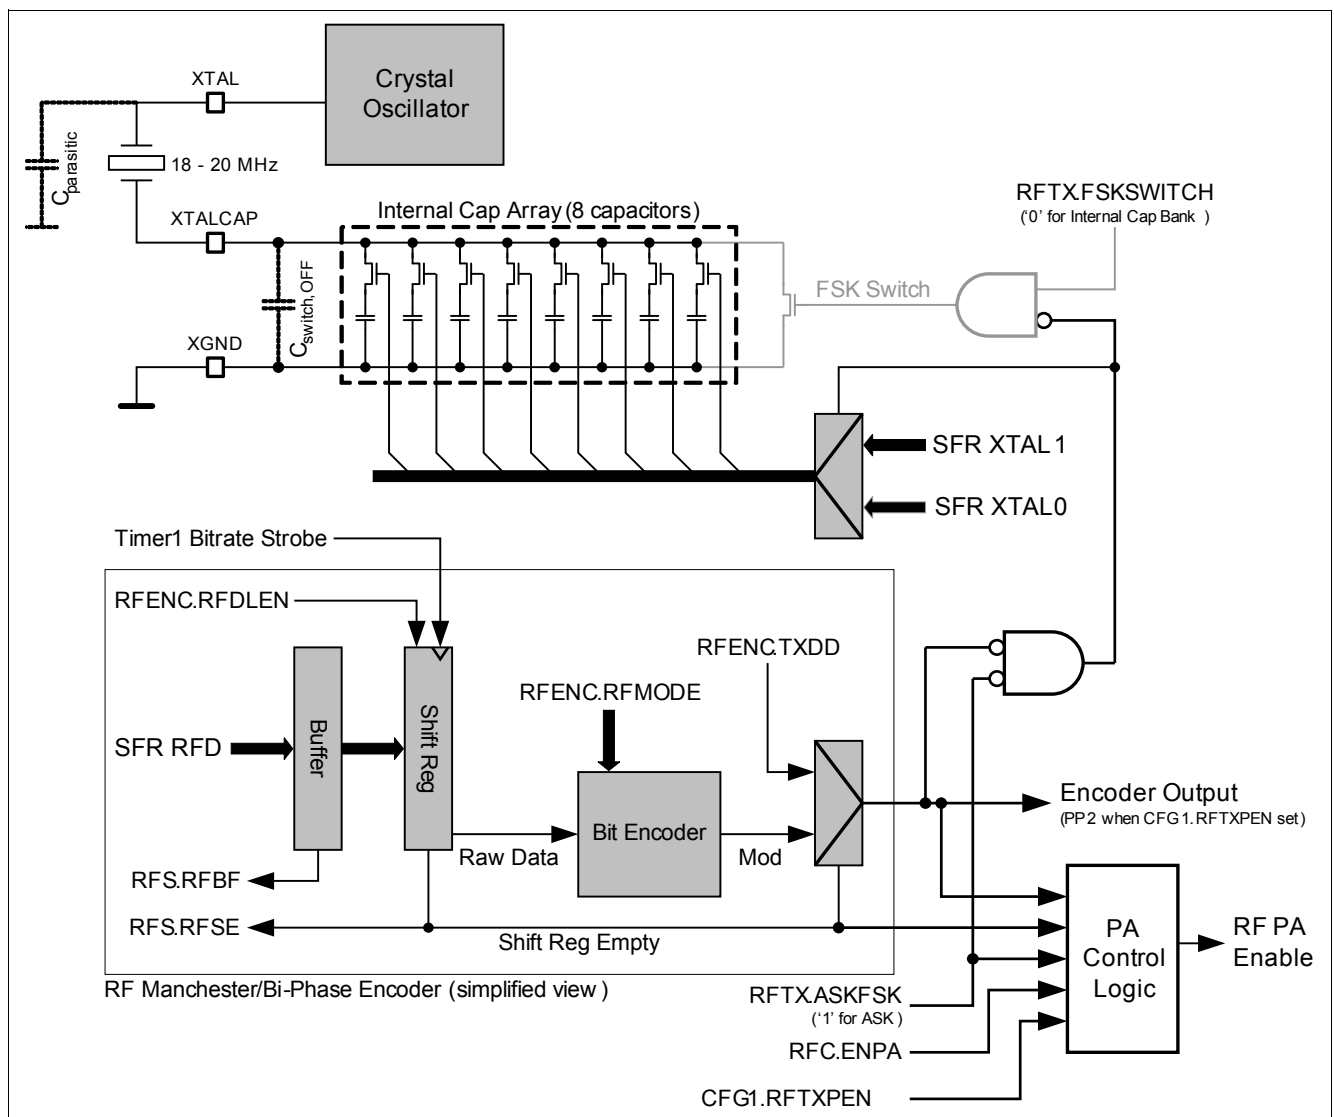
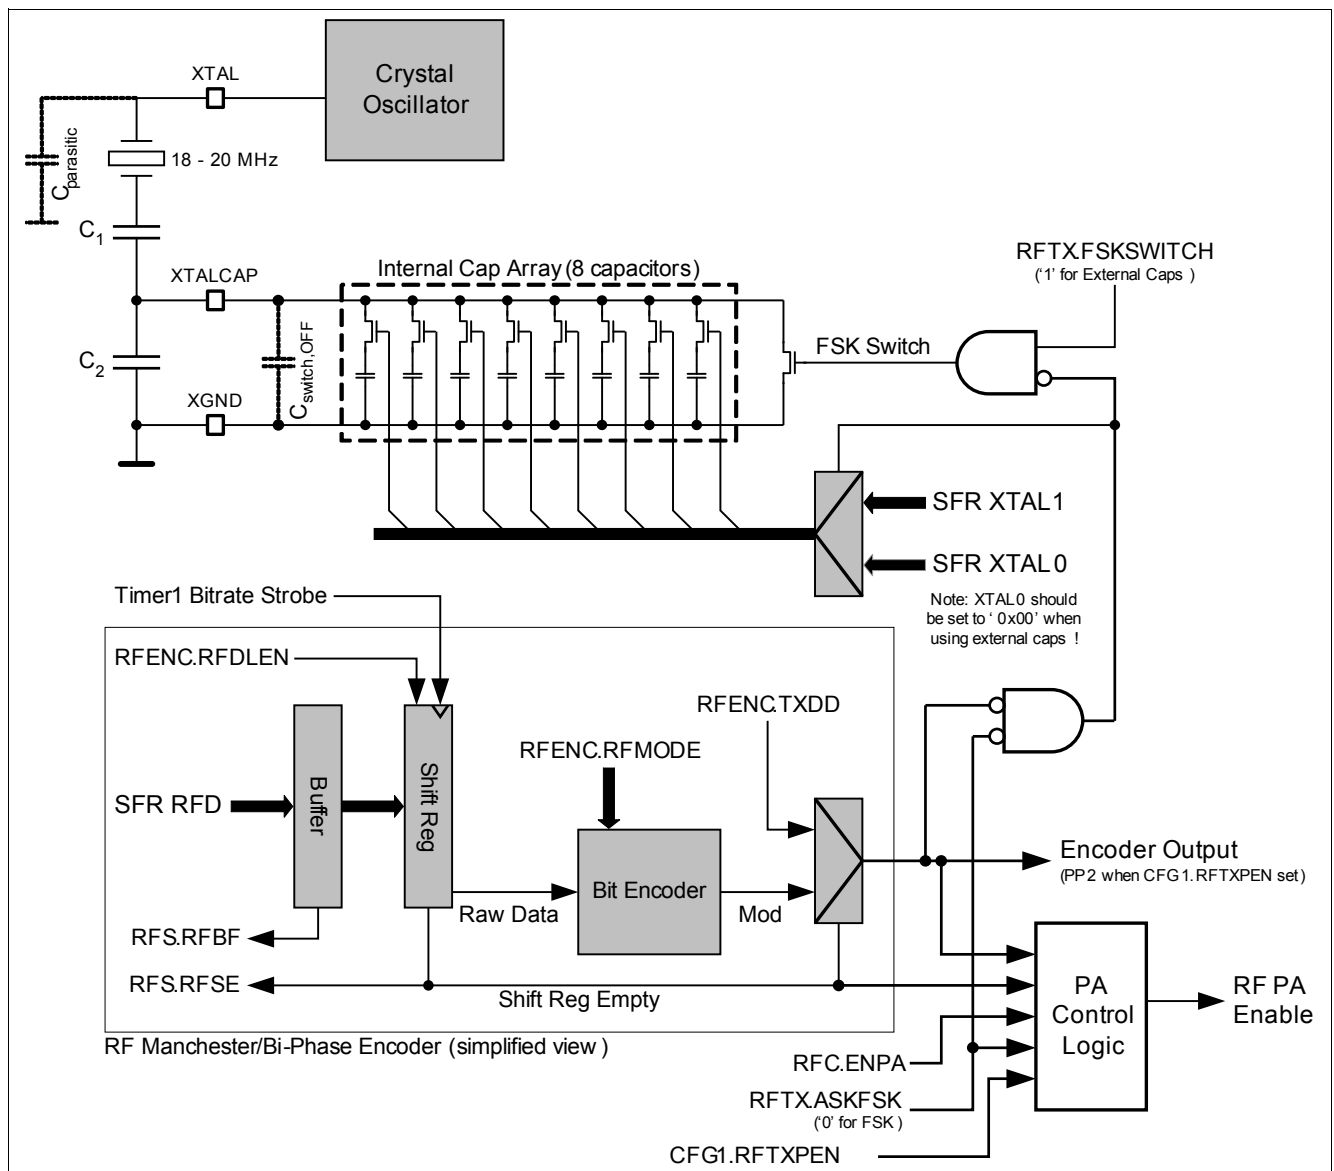
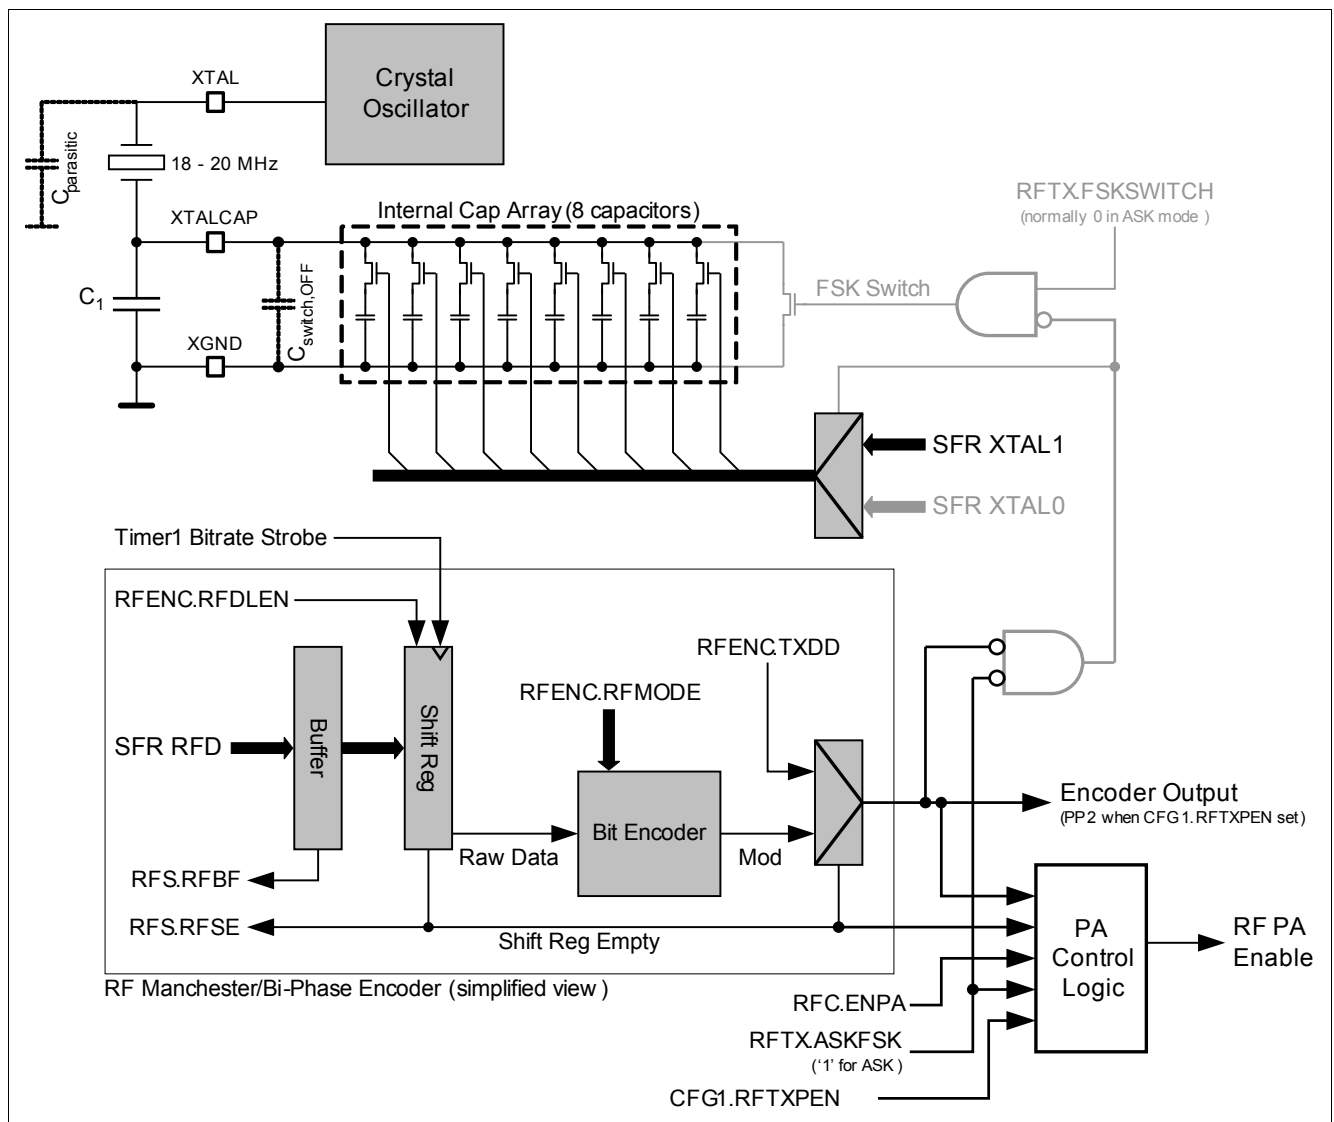

Figure 11 FSK using the internal capacitors
Figure 13 FSK using only external capacitors
Figure 14 ASK using only an external capacitor
Note: $C_{parasitic}$ used in Figure 11, Figure 13 and Figure 14 is the overall parasitic capacitance between the pins XGND and XCAP (switch, bond wires, pad parasitics,...). The formulas for calculating the resulting capacitance for ASK/FSK (C_{ASK} , $C_{FSKHIGH}$, C_{FSKLOW}) only take into account the dominating factor of $C_{Switch, OFF}$. Specification for the parasitic capacitance can be found in Table 42 "Crystal Oscillator, fCrystal = 18 MHz...20 MHz" on Page 160.
- In the configuration shown in **Figure 11** the internal capacitors are used. The desired capacitor values must be selected by using SFR XTAL1 and SFR XTAL0. The exact values used should be verified by module level testing.
- In the configuration shown in **Figure 13** the FSK switch is used in conjunction with external capacitors. Guidelines for determining the external capacitor values are **Equation (6)** and **Equation (7)**. The exact values used should be verified by module level testing.
- In the configuration shown in Figure 14 an external capacitor is used to establish the RF carrier frequency. A guideline for determining the external capacitor value is Equation \(8\). The exact value used should be verified by module level testing.